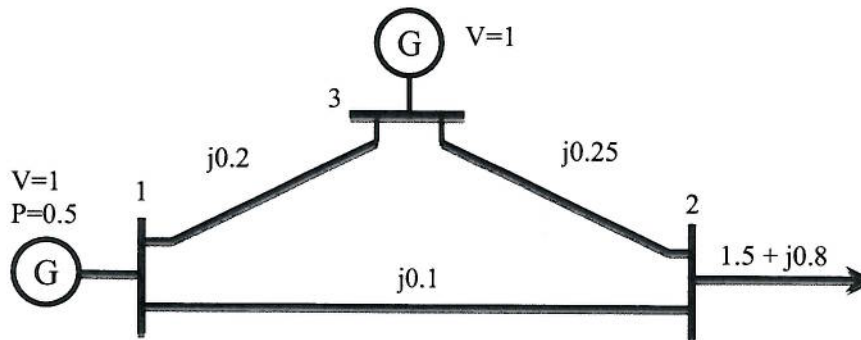

Figure 2: Three bus network showing per unit data for voltages, active and reactive load, and lines reactance
b) A three bus power network is presented in Figure 2. Data relevant for the load flow analysis on this system are given in per unit.